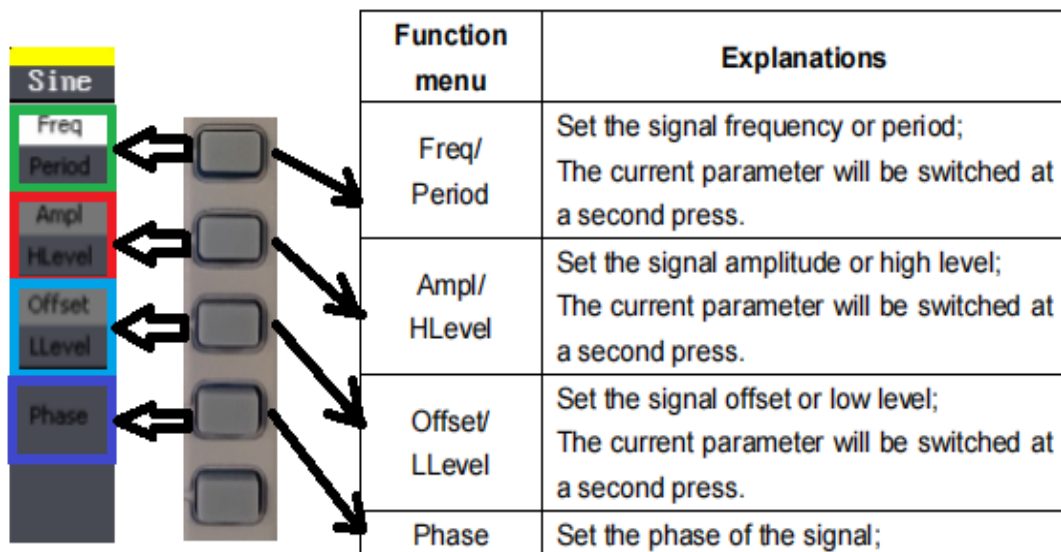

Figure 7: Menu operation
6. Menu Operation: Menu explanation is given in the following figure 7.